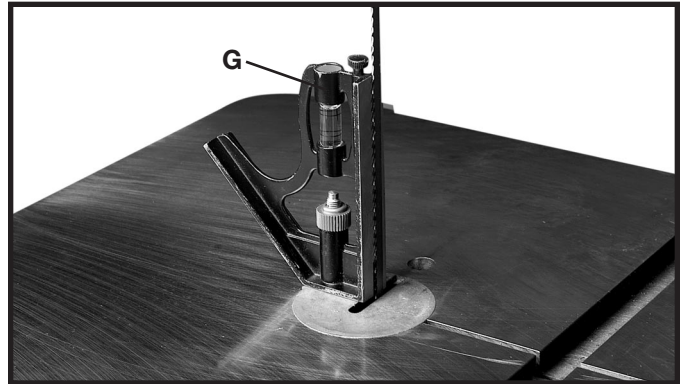

Fig. 46
4. Place a square (G) Fig. 46, on the table and set blade square to table.